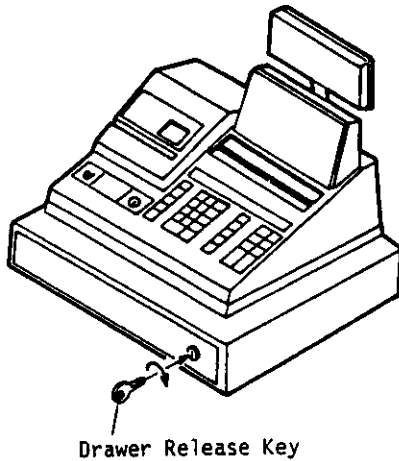

Fig. 1
2. Open the Paper Cover. (Fig. 1)
1. Insert the Drawer Release Key into the Drawer Release Lock and turn the key clockwise. The drawer will now open. (Fig.1)